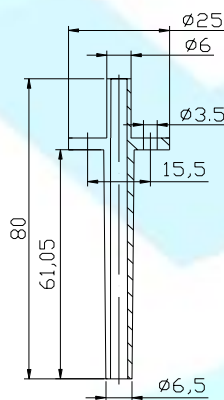
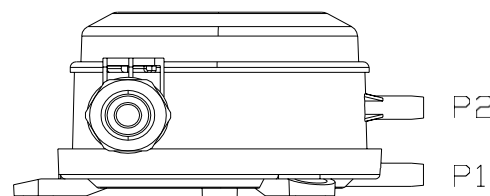

Fig. 5
Fig. 7
1. Insert the 2 pressure connection parts as Fig. 5 or 6 with the long side (60mm) into the prepared holes. Each part should be installed with 2 screws. Be sure to seal the holes after installing to keep the holes airproof.
2. Connect the plastic tube. The standard accessory is 2m long with inner  $\phi 6\text{mm}$ . Cut the tube as short as possible to connect the ports P1 & P2 on the switch and the other side of accessory of RSA-2006 or RSA-2018 as Fig. 5 or 6. P1 is high port on the bottom of the switch and P2 is low port on the switch body as Fig. 7.